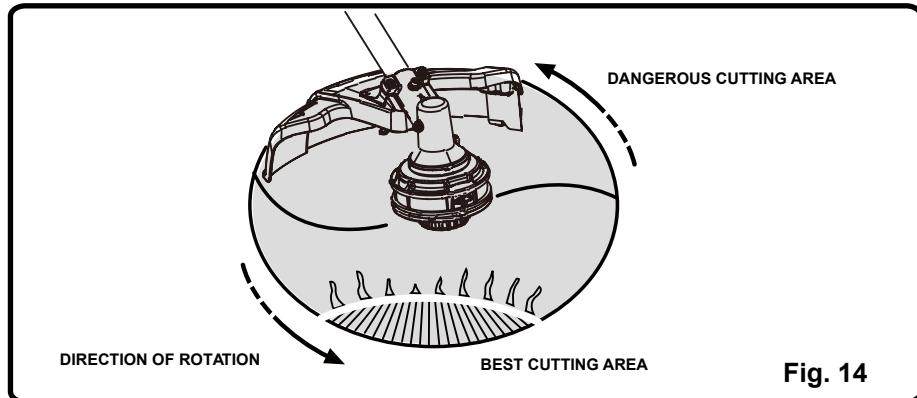

Fig. 14
CUTTING TIPS (See *Figure 14*.)
- The trimmer cuts when passing the unit from right to left. This will avoid throwing debris at the operator. Avoid cutting in the dangerous area shown in figure 14.